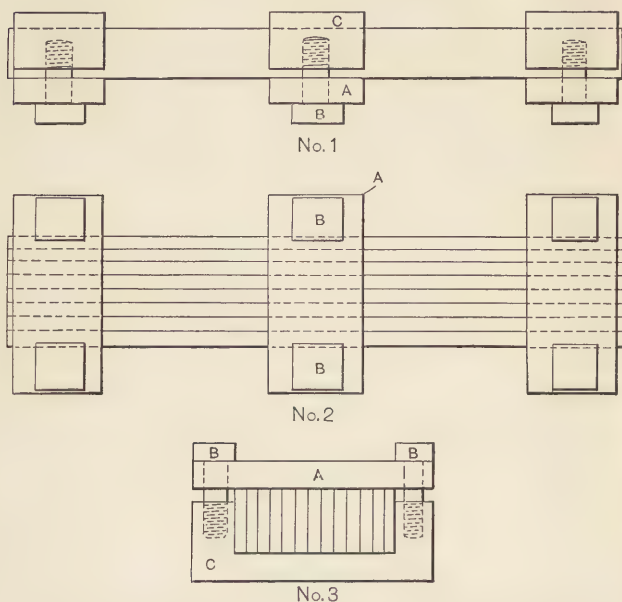

Fig. 4. Device used in Hardening Blades of High-speed Steel.
**Hardening long Blades.**—Fig. 4 shows how long, thin, narrow, high-speed steel blades may be hardened successfully without cracking or warping. (You can harden them to a certain extent in oil, one at a time, but not hard enough to be satisfactory.) Make three clamps, as shown in Fig. 4. Put one on each end and one in the center of the blades as shown in Nos.